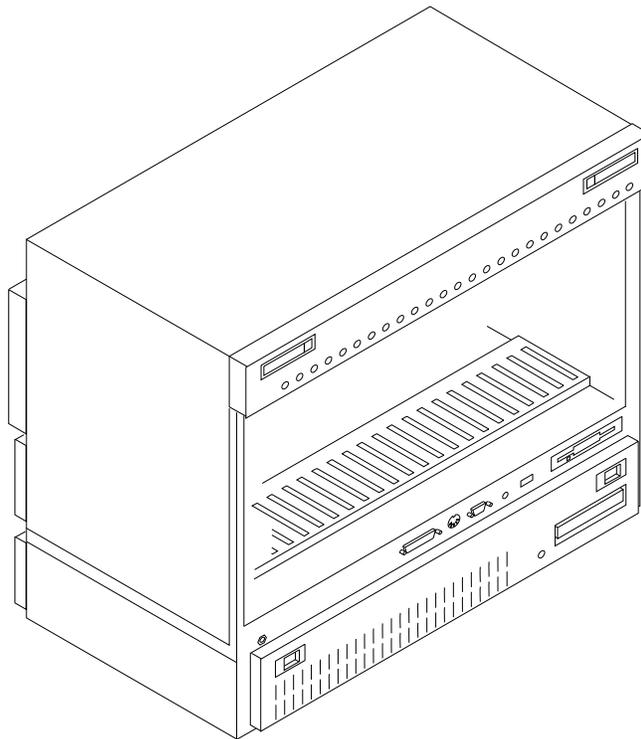

Figure 2-9. MAP/100C - Inside Card Cage
1. Loosen the two captive screws on the power supply access door on the rear of the unit (Figure 2-9).